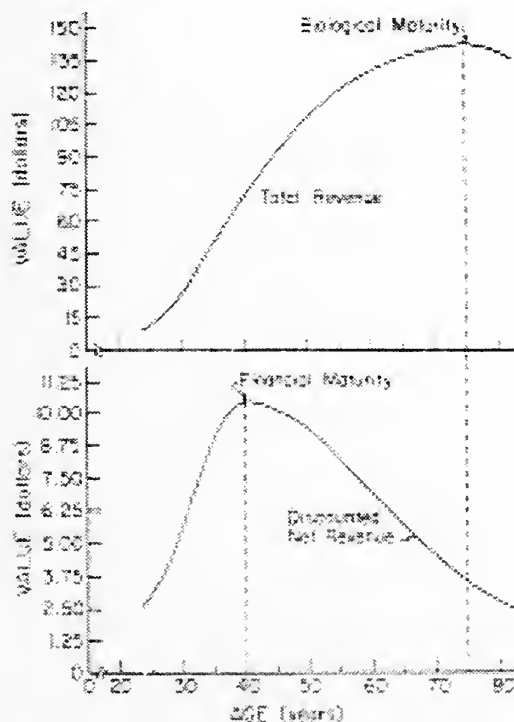

Figure 1. Comparison of financial and biological maturity for a hypothetical tree.
In uneven-aged stands managed for timber production, individual trees should be selected for harvest as they become mature. The financial maturity concept is ideally suited for the purpose of determining "maturity" if maximization of net revenues is the decision-making criterion. Figure 2 (5) represents the typical value growth percent (VGP) pattern for an individual tree. VGP measures the rate of value increase in the discounted net revenue curve (Figure 1); however, the VGP may be calculated without drawing such a graph. The value growth percent is modest when the tree is small in diameter because the value per unit of wood is low, and the volume is small. In the diameter range of 12 to 16 inches, the VGP initially rises sharply because unit values increase rapidly as the tree in-
In contrast, the biological maturity of a tree or a stand of trees occurs when the tree or stand achieves maximum merchantable volume. Financial maturity differs from biological maturity by imposing economic and business management constraints on the production process. In determining financial maturity, benefits are weighed against costs. The benefits are the marketable values, while the costs include capital charges and expenses. If the financial maturity concept is adopted as a management guide, trees and stands are normally harvested at a point in time prior to their biological maturity (Figure 1). Usually the point of financial maturity and biological maturity will be equal only if costs are zero and the owner's alternative rate of return is zero.³